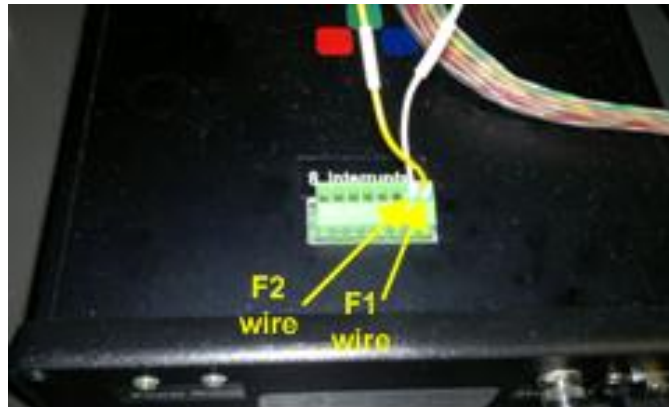

Figure 6: Interrupt wires of 2-finger activation device connected to Interrupt Connector.
- If using 2-finger activation device, the interrupt wires are connected as follows (Fig. 6):